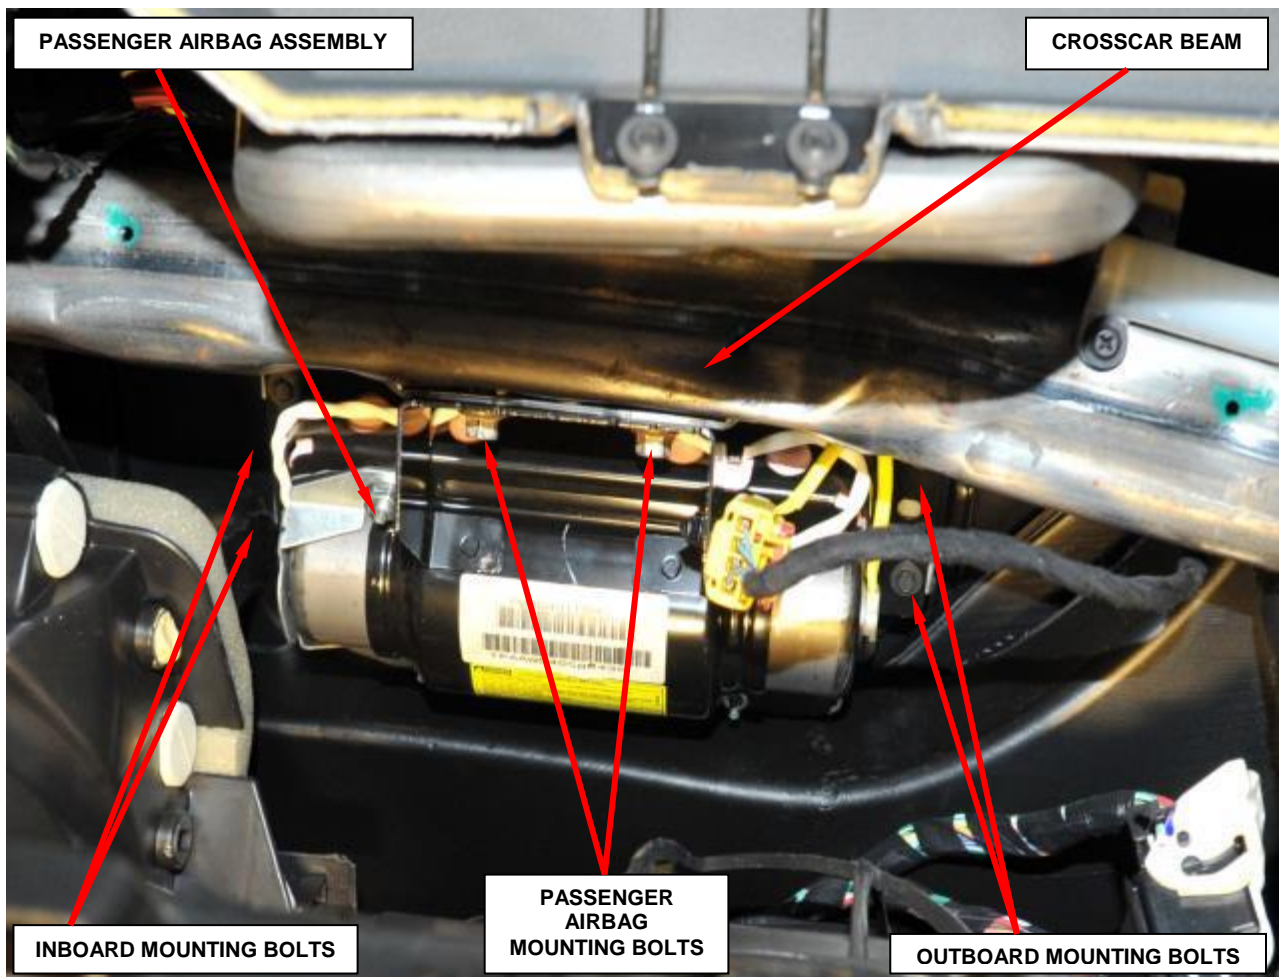

Figure 18 – Passenger Airbag Mounting Locations
5. Remove and save the two inboard mounting bolts to the passenger airbag assembly just below the distribution duct and to the left of the distribution housing (Figure 18).
6. Remove and save the two outboard mounting bolts to the passenger airbag assembly just below the distribution duct (Figure 18).
7. Remove and save the two passenger airbag assembly mounting bolts to the crosscar beam (Figure 18).